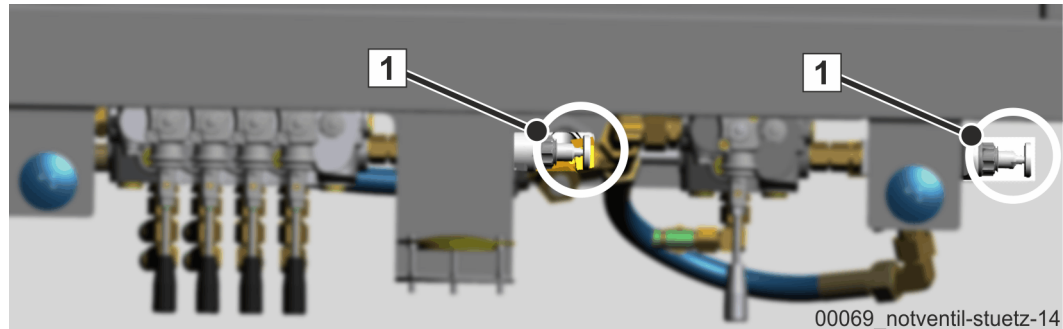

Fig. 223 Emergency valve for release button (S 56/65 SXF)
For machine models with type S 56/65 SXF, the valve on each release button has to be actuated manually (1) (**Fig. 223**) in addition to the control lever (7).